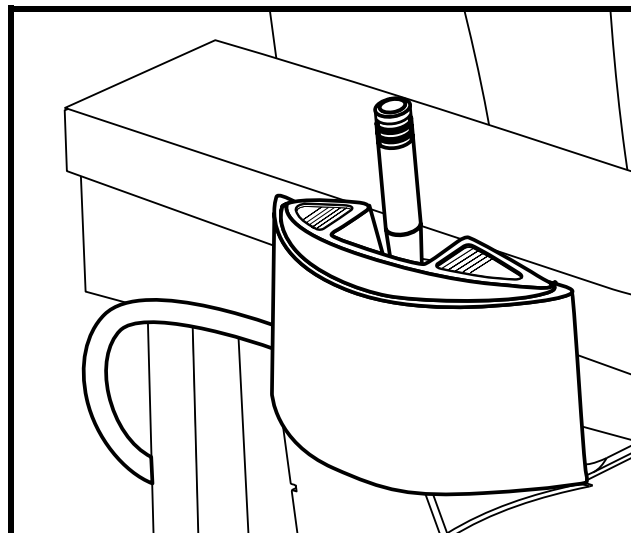

Figure 23. Power Seat Toggle Switch
1. Press forward on the toggle switch to raise the seat. See **figure 23**.